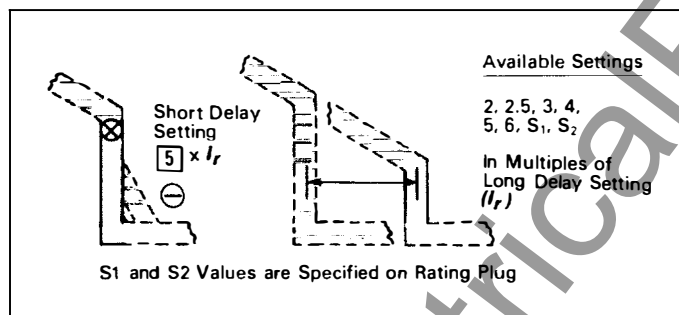

Fig. 4.3 Short Delay Current Settings
There are eight (8) available Short Delay Current Settings, as illustrated in Fig. 4.3. Six settings are in the range from 2 to 6 times I_r and the other two settings are "S1" or "S2" times I_r (REMEMBER: I_r is the Long Delay Current Setting). The values that "S1" and "S2" have depend upon the type of circuit breaker, and are specified both on the rating plug label (see Fig. 6), and on the applicable Time-Current Curves referenced in Section 9.0.